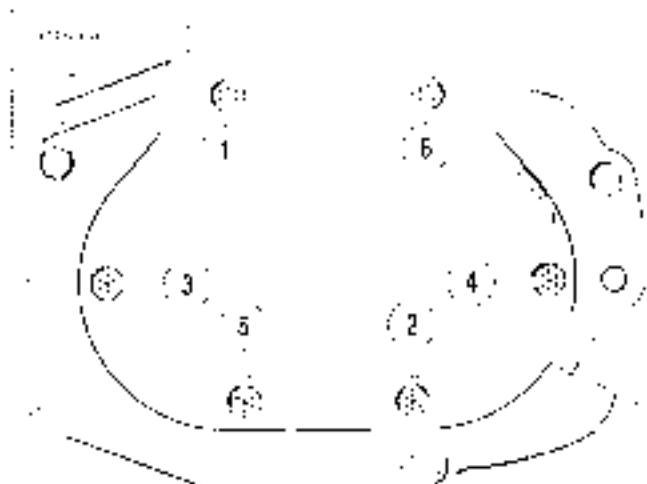

Figure 7-17. Cover Screws
2. See Figure 7-17. Remove the six screws that hold the clutch release cover in place. Remove the clutch release cover and discard the gasket.
5. See Figure 7-17. Install **new** gasket and replace clutch release cover. Tighten all six screws to 54-108 in-lbs (9.5-12.2 Nm).